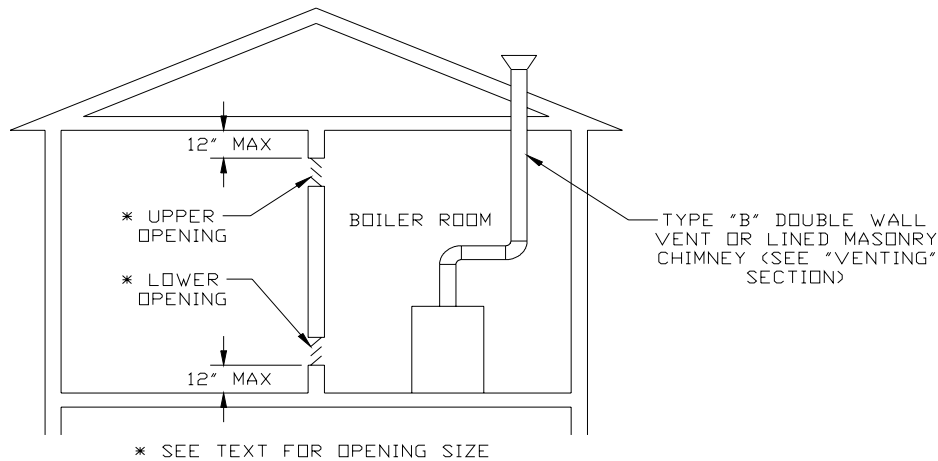

Figure 10: Boiler Installed In Confined Space, All Air From Inside
- 2) **Confined space** - Provide two openings into the boiler room, one near the floor and one near the ceiling. The top edge of the upper opening must be within 12" of the ceiling and the bottom edge of the lower opening must be within 12" of the floor. See Figure 10.